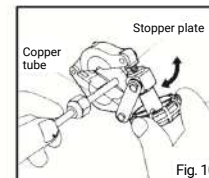

Fig. 10
- 2** Choose a clamp that is compatible with the tube size, and then place the tube so that the tube end contacts the stopper plate. (Fig. 10)